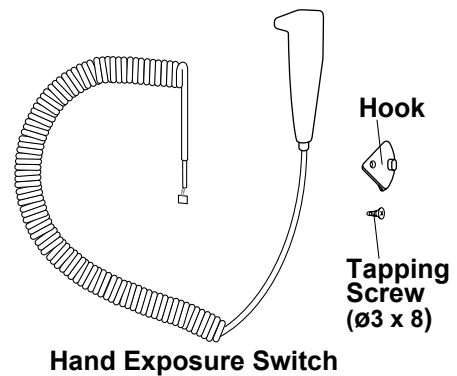

Fig.3-30 Hand Exposure Switch Kit
- Confirm the contents of optional hand exposure switch kit. (Fig.3-30)